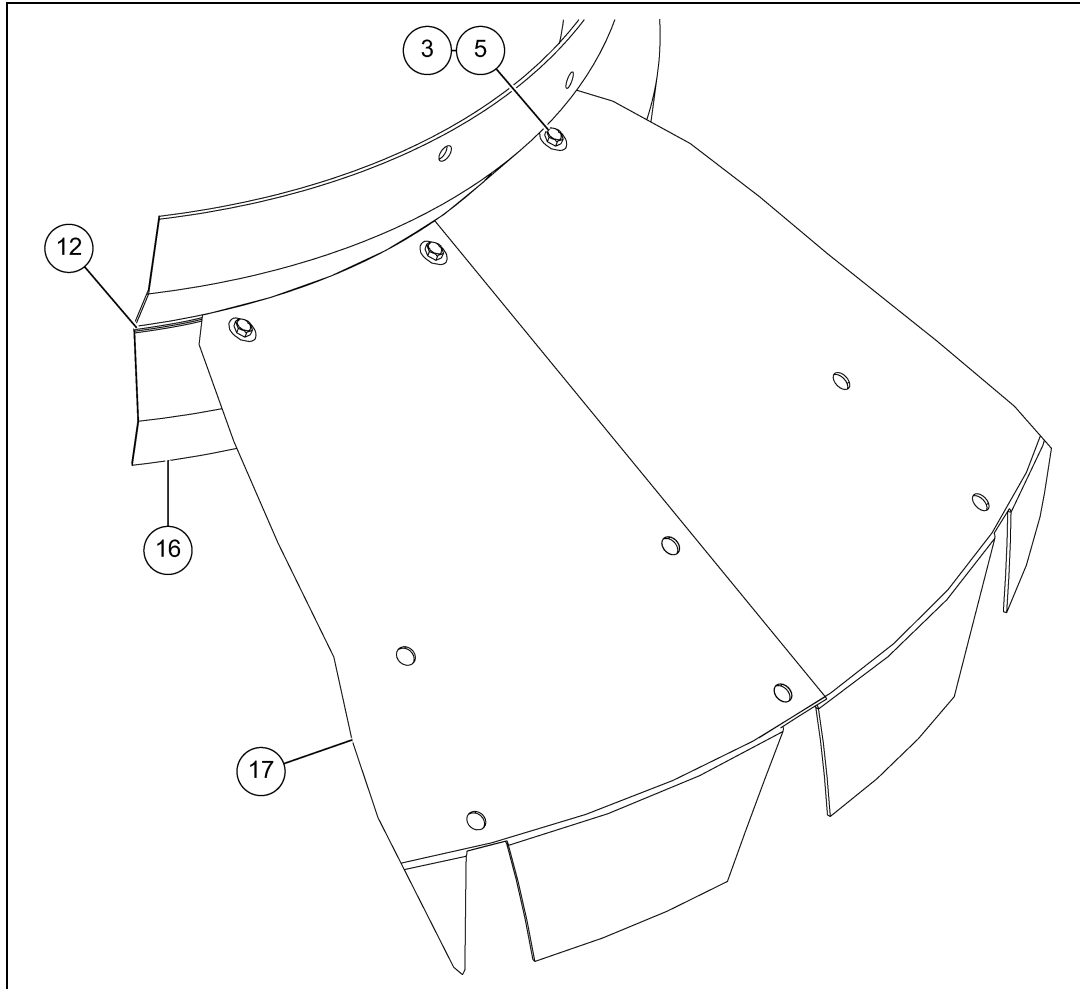

Figure 11A Roof Flashing (for 18' Diameter Bins)
1. Prior to the assembly of the roof and center collar (16), position the flashing (17) to ensure the cap hold-down is in line with the roof ladder.
2. Apply caulking (12) to the center collar (16) where the flashing will be placed.
3. Assemble the flashing (17) pieces together with the center collar (16) using 5/16" x 1" flange bolts (3) and 5/16" flange nuts (5). (See Figure 11A.)